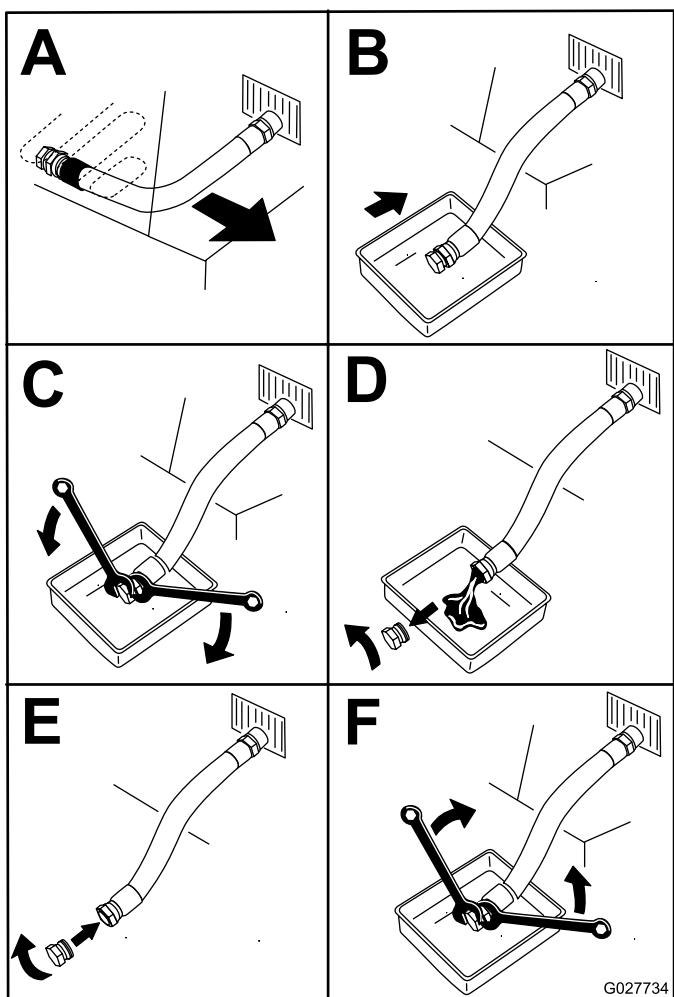

Figure 66
- Drain the oil from the engine (Figure 66).